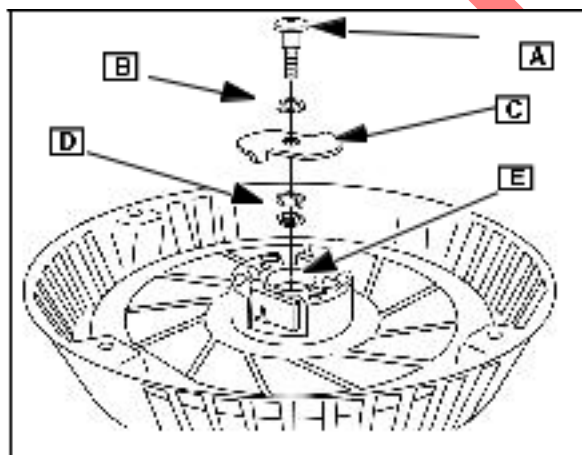

Fig. 11
Remove retainer screw (A), small washer (B), retainer (C), brake spring (D), and large washer (E) Fig. 11).